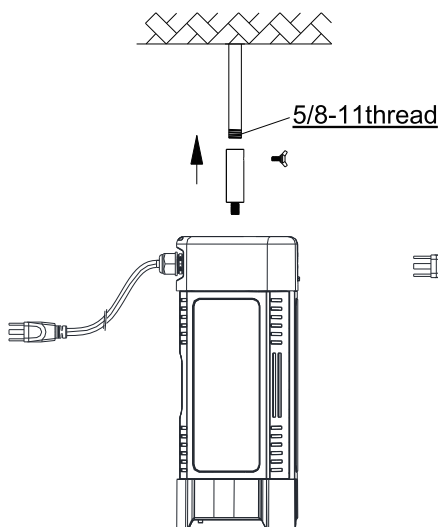
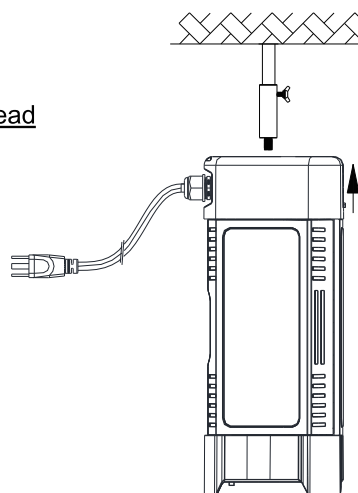

Figure 15
Figure 16
1. Only suitable for threaded round pole with the diameter 5/8inch. Put the 5/8 NPT Stem into the round pole (Figure 15), then tighten the 5/8 NPT Stem by screwing the butterfly screw (Figure 16);
2. Connect the fixture to the 5/8 NPT Stem; (Figure 16, 17)